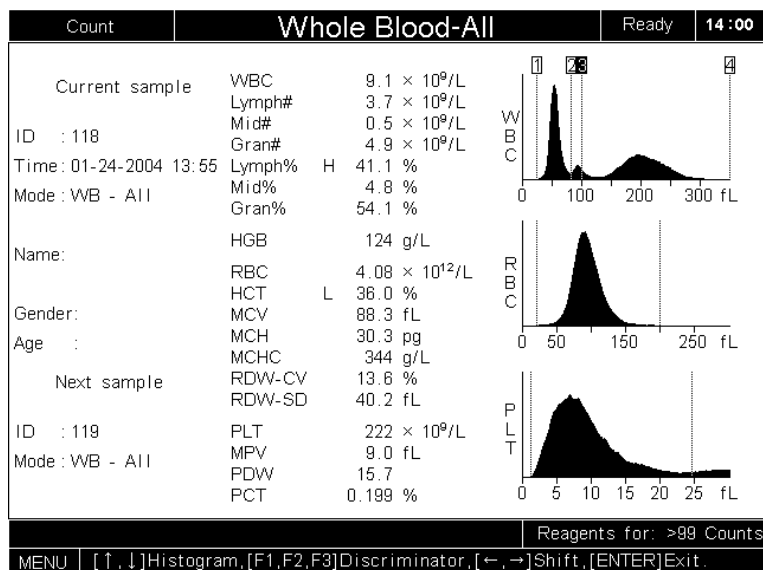

Figure3-14 Adjusting WBC histogram [2]
4. Press [] to shift the discriminator to 100fL, as Figure3-14 shows.